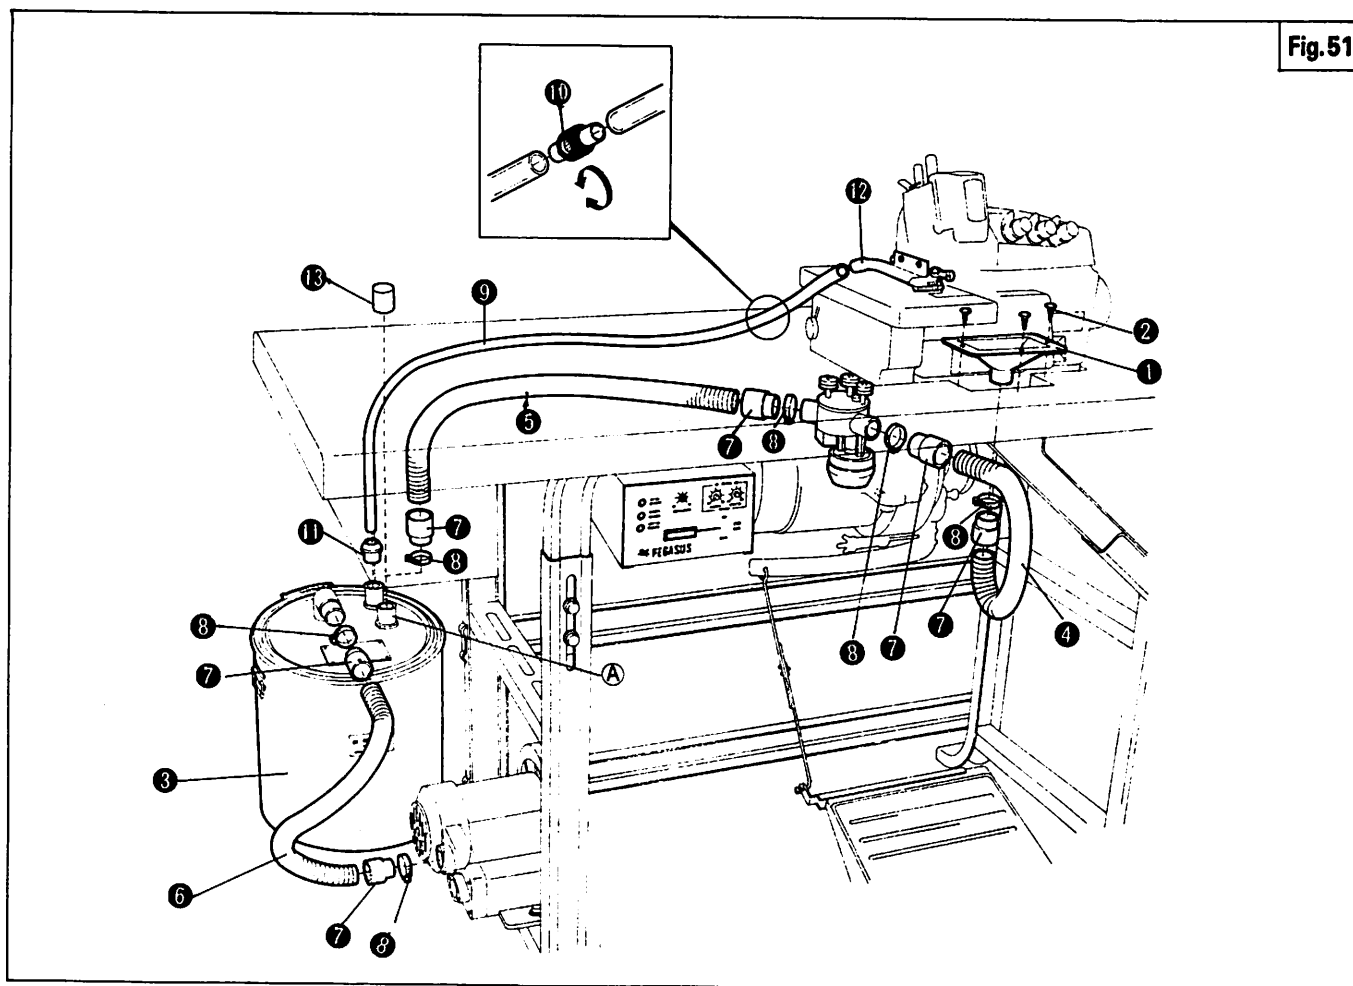

Fig.51
Fitting the cutting waste collector (Fig. 51)
- If the machine has a standard waste chute top then replace it with the special waste chute top ①.
Locating the dust drum ③ (Fig. 51)
1. Connecting the tubes ④, ⑤ and ⑥ (Fig. 51)
- Place a connector ⑦ and a band clip ⑧ onto the ends of each of the tubes.
- Connect each tube as shown in Fig.51, then fasten them with the band clips ⑧.
- Note that the supplied tube ④ is a little longer than required. Please cut it to the correct length before connecting it.
2. Connecting the chain cutter suction tube ⑨ (Fig. 51)
- Cut the tube ⑨ at a suitable place and insert the air regulator ⑩ as shown.
- Insert the dust drum end of the tube ⑨ into the connector ⑪ and connect it to the dust drum ③. Then connect the other end of the tube ⑨ to the chain cutter.
- When using the dust drum and a chain cutter without an automatic vacuum switching device, be sure to place the cap ⑬ on the suction port A.